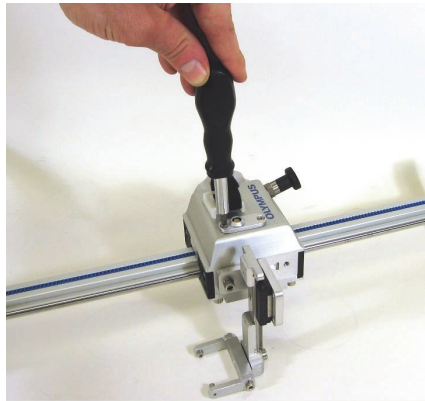

Figure 2-31 Removing the encoder screws
1. Remove the two screws (see Figure 2-31 on page 47).